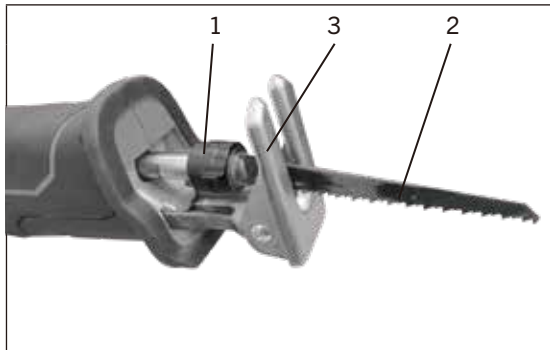

FIG. 1
1. To install a blade in the saw, rotate the blade locking sleeve (1) counter clockwise (Fig. 1).
2. Insert the appropriate blade (2) into the blade slot (3) as far as it will go.